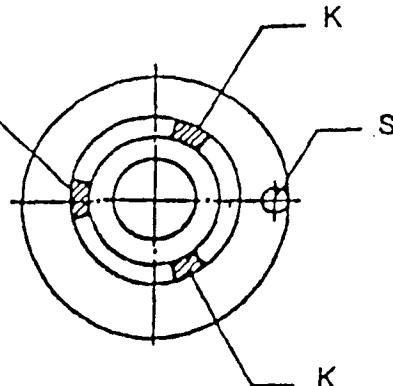

Fig. 6
- * Turn the wheel through 90° at a time and see if it is balance. If not, the correction weight "K" must be moved until the wheel is in balance in any position (Fig. 6)